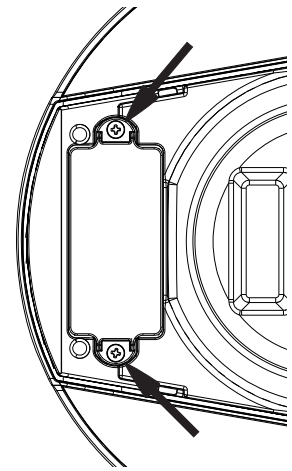

FIG. 2
2. Remove the two screws and cover on bottom of the lid, Fig 2.